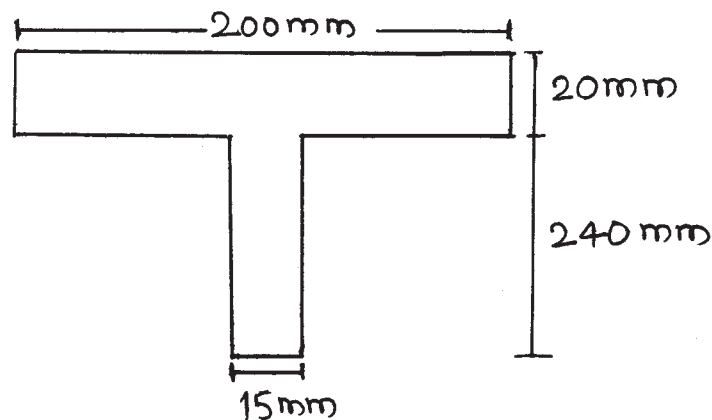

Fig. No. 9.
- a) Find position of centroid for T-section as shown in Fig. No. 9.